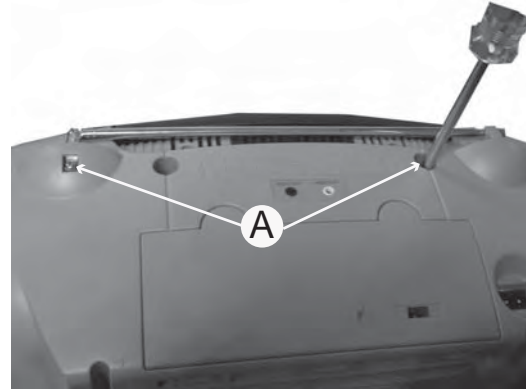

Figure 1
- 1) Loosen 4 screws at back panel "A" & "B" and 2 screws at bottom side "C" to remove the front panel assembly as shown in figure 1, 2 & 3.